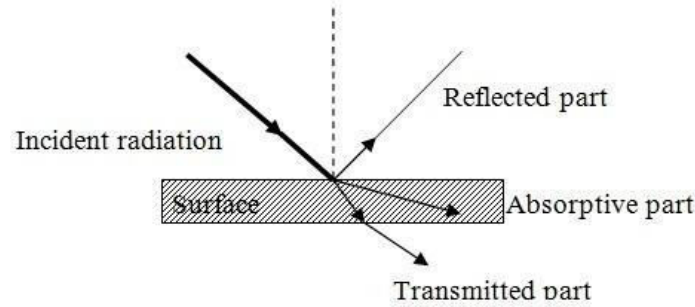

Fig. 5.4: Reflection, absorption and transmitted energy
- When thermal radiation (Q_o) is incident on a surface, a part of the radiation may be reflected by the surface (Q_r), a part may be absorbed by the surface (Q_a) and a part may be transmitted through the surface (Q_c) as shown in figure 5.4.